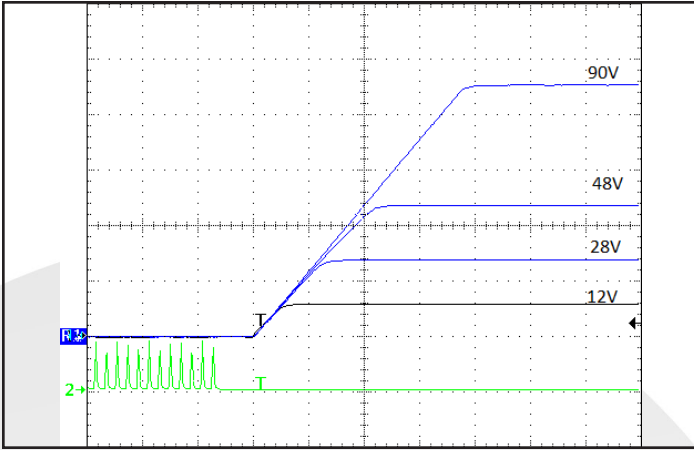

Figure 7: Turn-on transient at 28V input; full load (10ms/div). Top Traces: Vout (20V/div). Bottom Trace: ON/OFF input (5V/div)
**REMOTE ON/OFF:** Only Negative On/Off logic is available in the converter series: logic high at the input turns the converter Off while a logic low turns in On. Timing of this is shown in Figures 7, 8. A high level can be driven to any voltage between 1.5V and 3.3V, or simply left floating as the unit contains an internal 25K $\Omega$  pull-up to 5.0V. The pin can be pulled low (to  $V_{out-}$ ) by an optocoupler, an open-source/drain transistor or wired permanently to  $V_{out-}$ . To provide noise immunity the input has 0.3V of hysteresis.